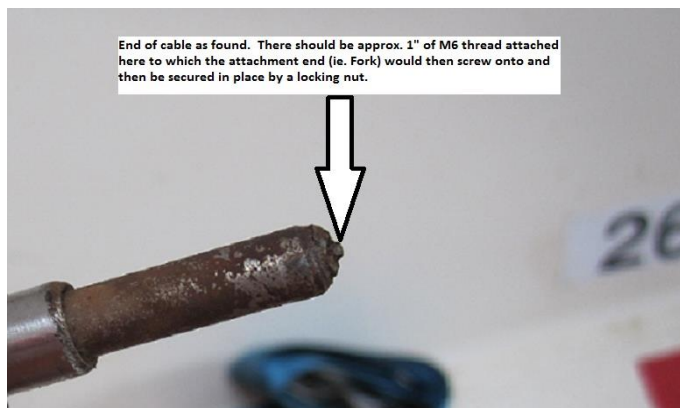

Figure 3: Showing end of failed cable
- ◆ The operation cable was found to have failed at the forward end of the lifeboat. This was likely due to its age, in service use, and the inability to adequately monitor its condition. The cable terminates into a M6 thread; and the failure occurred directly at the locking nut – see Figure 3;